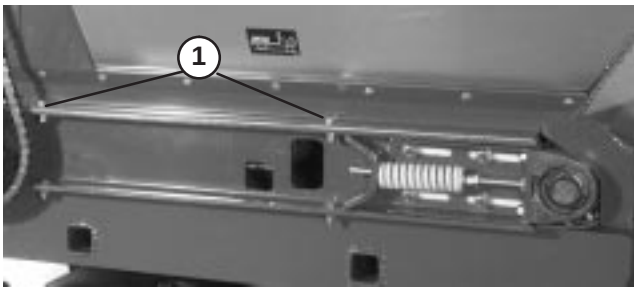

Figure 29
4. Remove (2) capscrews, washers and nut, on each side of machine, securing hopper to slider bed (Fig. 29).